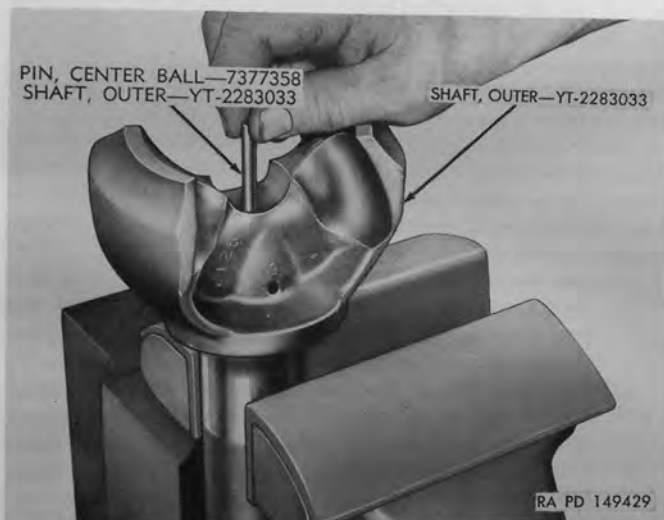

Figure 116. Universal joint center ball pin installation.
c. Position Center Ball.—Place center ball (E) on the seat at the center of the inner shift.
d. Install Center Ball Pin.—Insert center ball pin (D) into hole in outer shaft (fig. 116). Check pin several times to be sure it slides freely and does not stick.
e. Position Outer Shaft.—Place outer shaft (A) over inner shaft (F) with outer shaft resting on center ball (E). Be sure center ball pin (E) does not drop out of outer shaft during this operation.
f. Install Three Outer Balls.—Bend outer shaft at joint to an extreme angle as necessary to slip three of the outer balls (C) into the